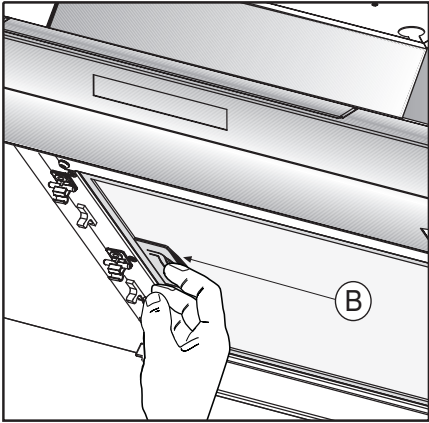

Fig.6
- Before starting to fix the hood, disconnect the anti-grease filter **B** (Fig.6) for easier appliance handling. Before this operation, perform the following steps depending on the model purchased:
Pull handle **B** as shown in Fig.6.